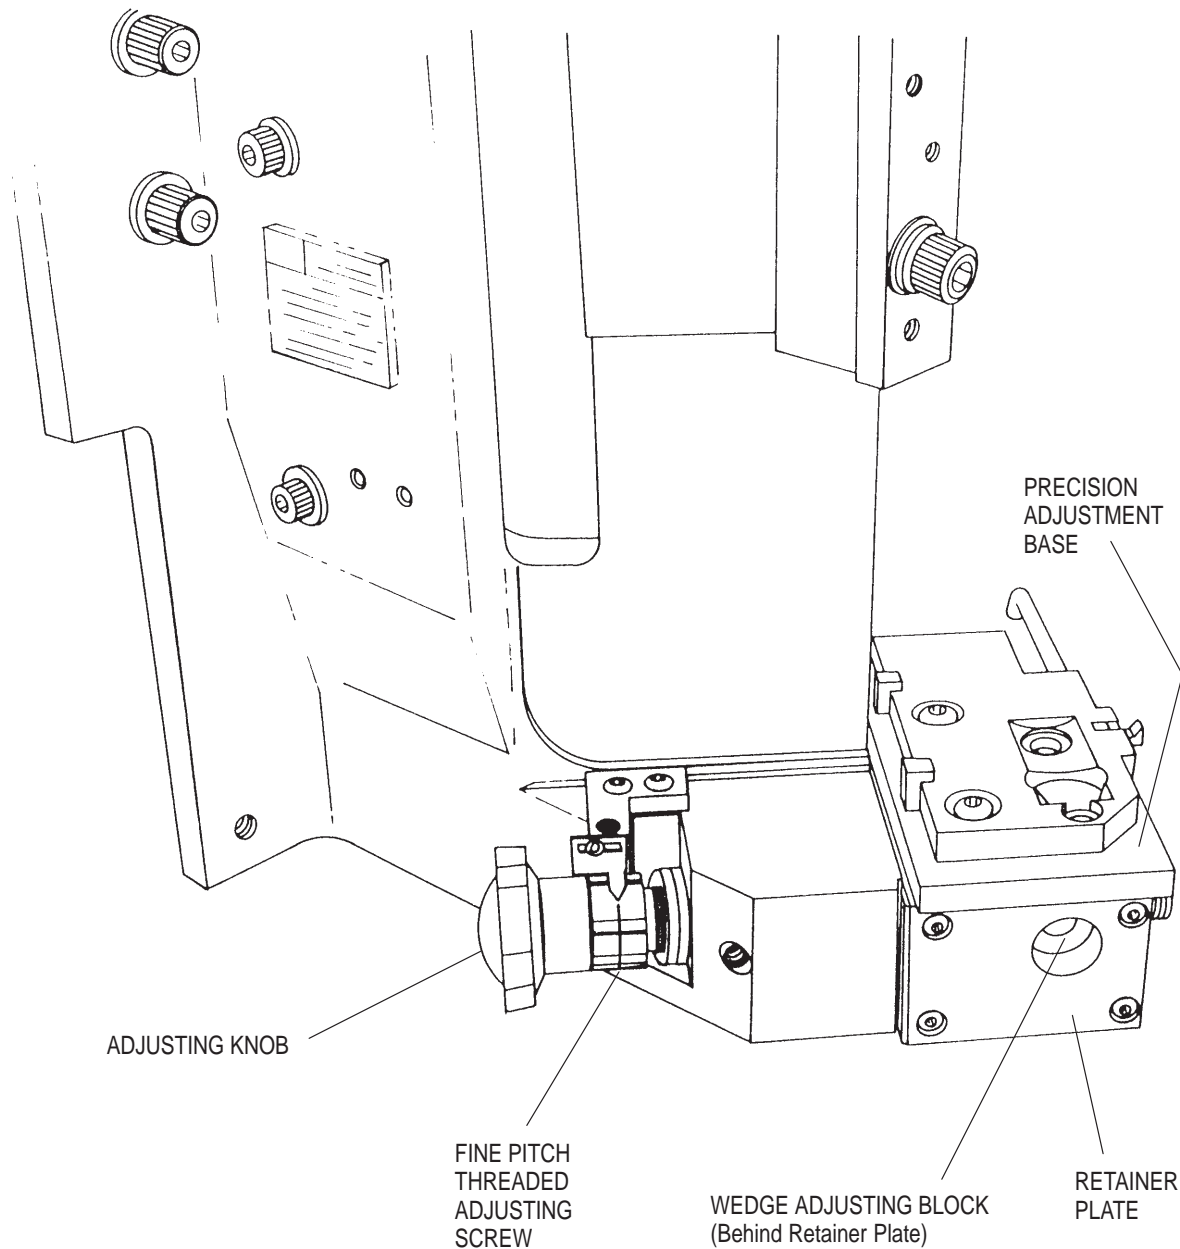

Figure 2-3. Precision Adjustment Base
F. The *precision adjustment base* uses a combination of a wedge and a fine pitch threaded adjusting screw to provide accurate adjustment of the base. Using the precision adjustment base, the base can be adjusted reliably in increments of 0.013 mm [.0005 in.]. The adjustment is achieved by turning the adjustment knob either clockwise or counterclockwise. Turning the knob clockwise will increase the crimp height; turning the knob counterclockwise will decrease the crimp height. See Figure 2-3.